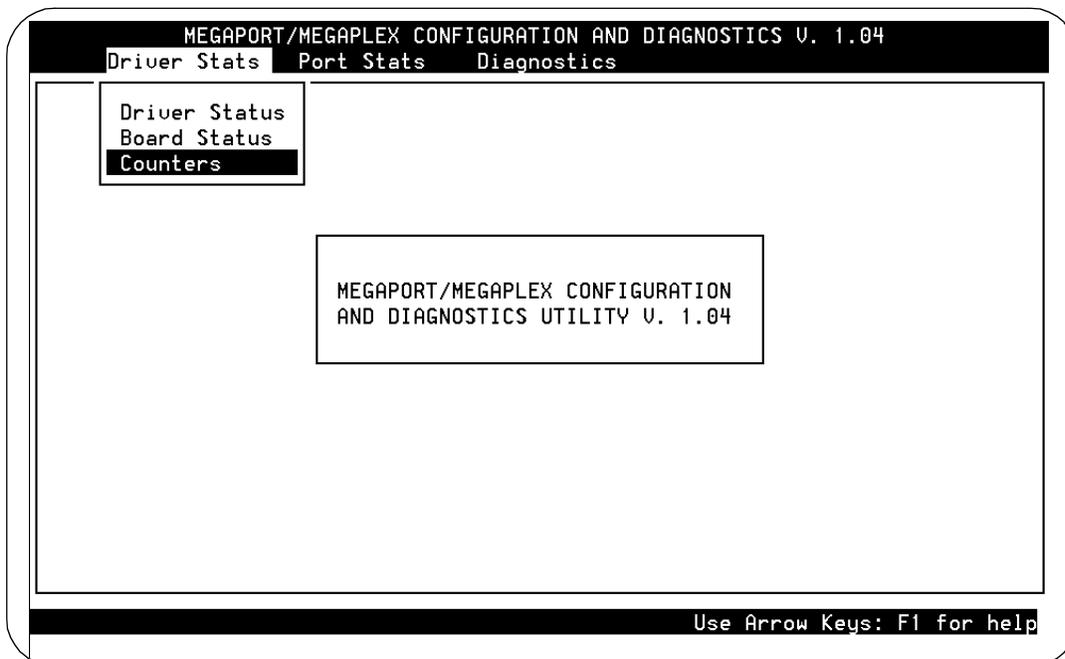

Figure 2-27. Megaport and Megaplex Configuration and Diagnostics Screen
The system displays the Megaport and Megaplex Configuration and Diagnostics screen (Figure 2-27).
1. Starting at the Megaport and Megaplex Configuration and Diagnostics screen (Figure 2-27).